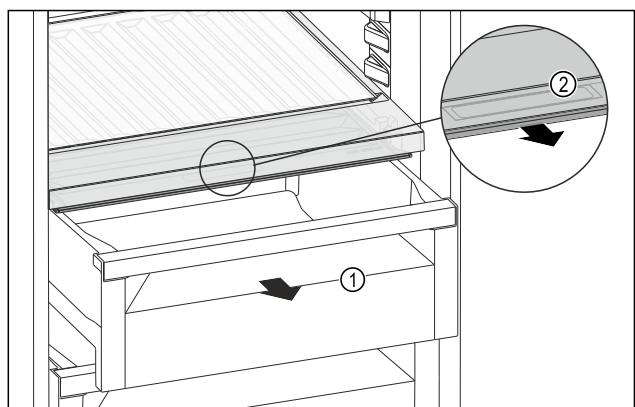

Fig. 100
- ▶ Pull out the drawer Fig. 100 (1).
- ▶ Grasp the recessed grip Fig. 100 (2) on the compartment lid and pull the compartment lid forwards at the same time.